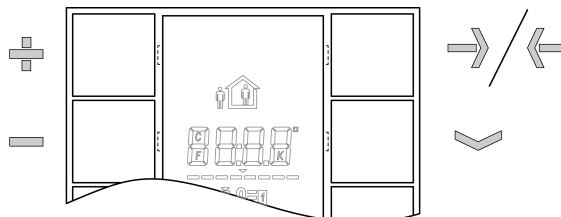

Figure 2: Menu buttons
- Switching to the menu: Press the top two buttons simultaneously (Figure 2).